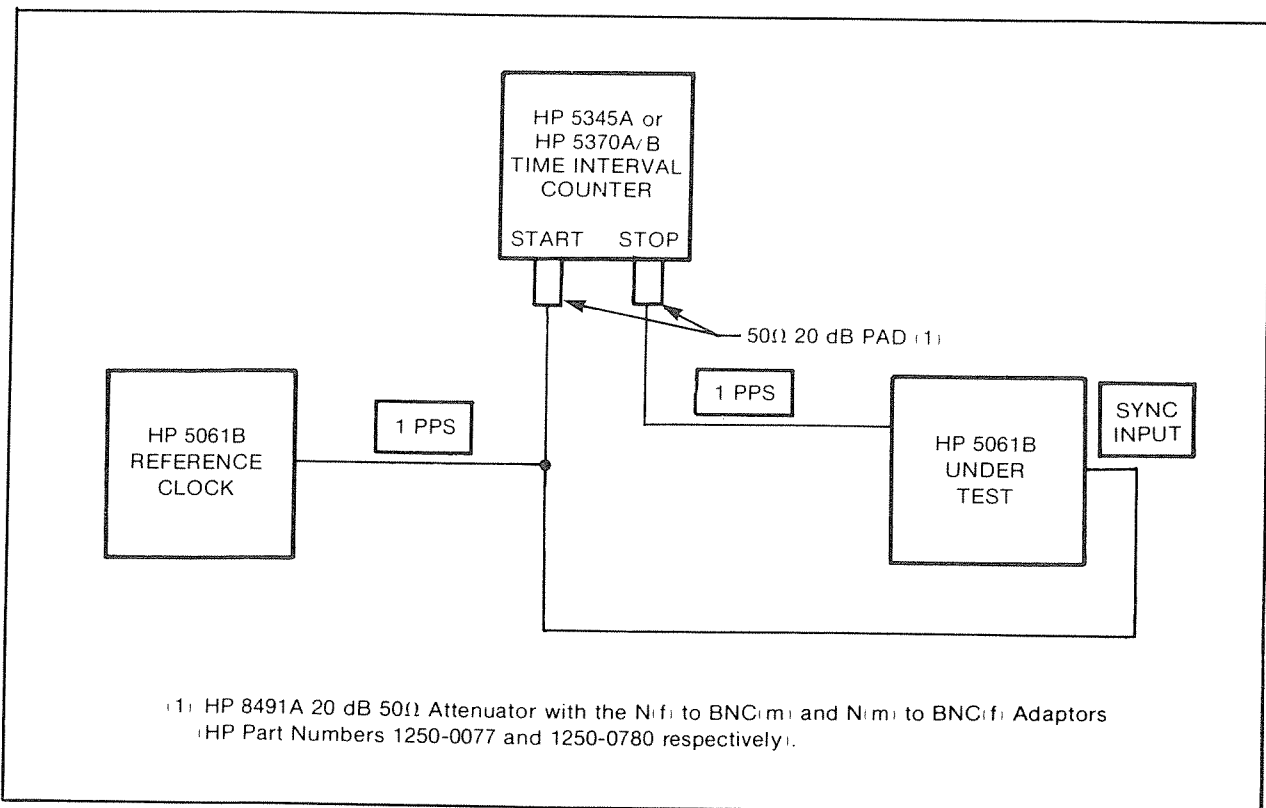

Figure 3-14. Equipment Setup for Synchronization and Delay Checks
- Connect equipment as shown in *Figure 3-14*.